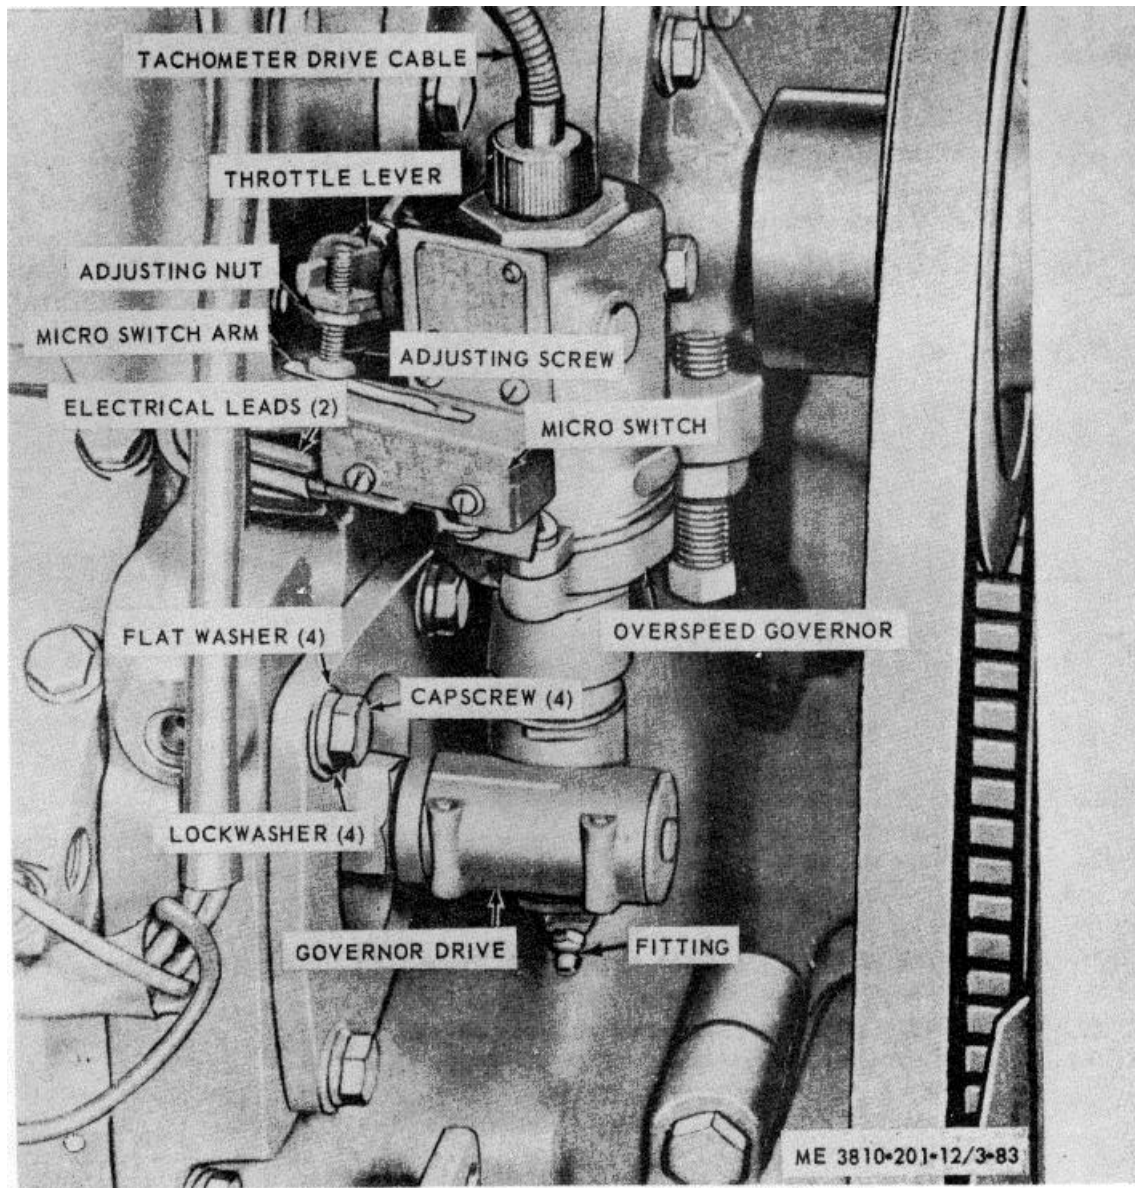

Figure 3-83. Overspeed governor, removal, installation, and speed adjustment (engine model 687C-18-ES).
(1) Disconnect and remove tachometer drive cable (fig. 3-83), then tag and disconnect two electrical leads.
(1) If engine shuts down before tachometer indicates 1,920 RPM, increase distance between head of the adjusting screw (fig. 3-83) and microswitch arm by turning adjusting screw counterclockwise then moving adjusting nut toward throttle lever. Repeat adjustment, by trial and error, until engine shuts down at 1,935 + 15 RPM.
(2) If engine does not shut down when tachometer indicates more than 1,950 RPM, decrease distance between head of adjusting screw and microswitch arm by backing off adjusting nut, turn adjusting screw clockwise, then move adjusting nut toward throttle lever. Repeat adjustment, by trial and error until engine shuts down at 1,935 to 15 RPM.